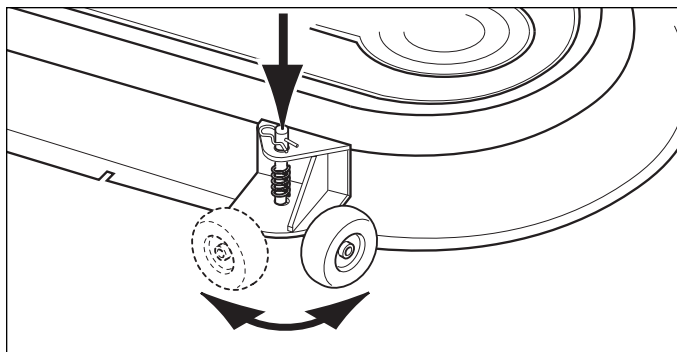

Figure 11. Pivoting Gauge Wheels - Select Models
1. Park the tractor, fully lower the attachment lift, turn off the PTO, turn off the engine, remove the key, and engage the parking brake. If equipped, pivot the gauge wheels into sliding position (see Figure 11).
6. If equipped, raise the attachment lift and rotate the front gauge wheels (Figure 11) into cutting position.
8. If equipped, raise the attachment lift and rotate the front gauge wheels (Figure 11) into cutting position.